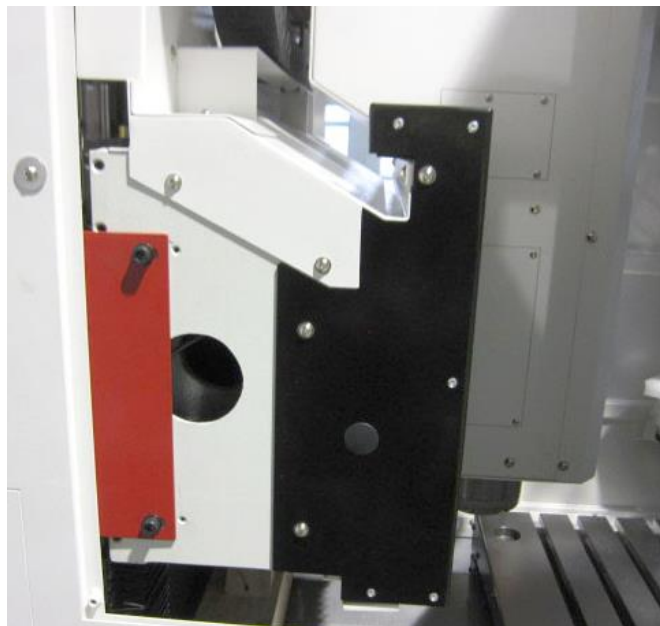

Figure 2.5b - Detail of Bridge Casting (X-Axis)
2. Remove the red brackets (one on each side) that hold the bridge casting (X axis) to the column. Remove side panels to gain access. Brackets are held on with (2) M8 and (2) M6 SHCS. See figure 2.5b.
- (2) Side Brackets shown in figure 2.5b